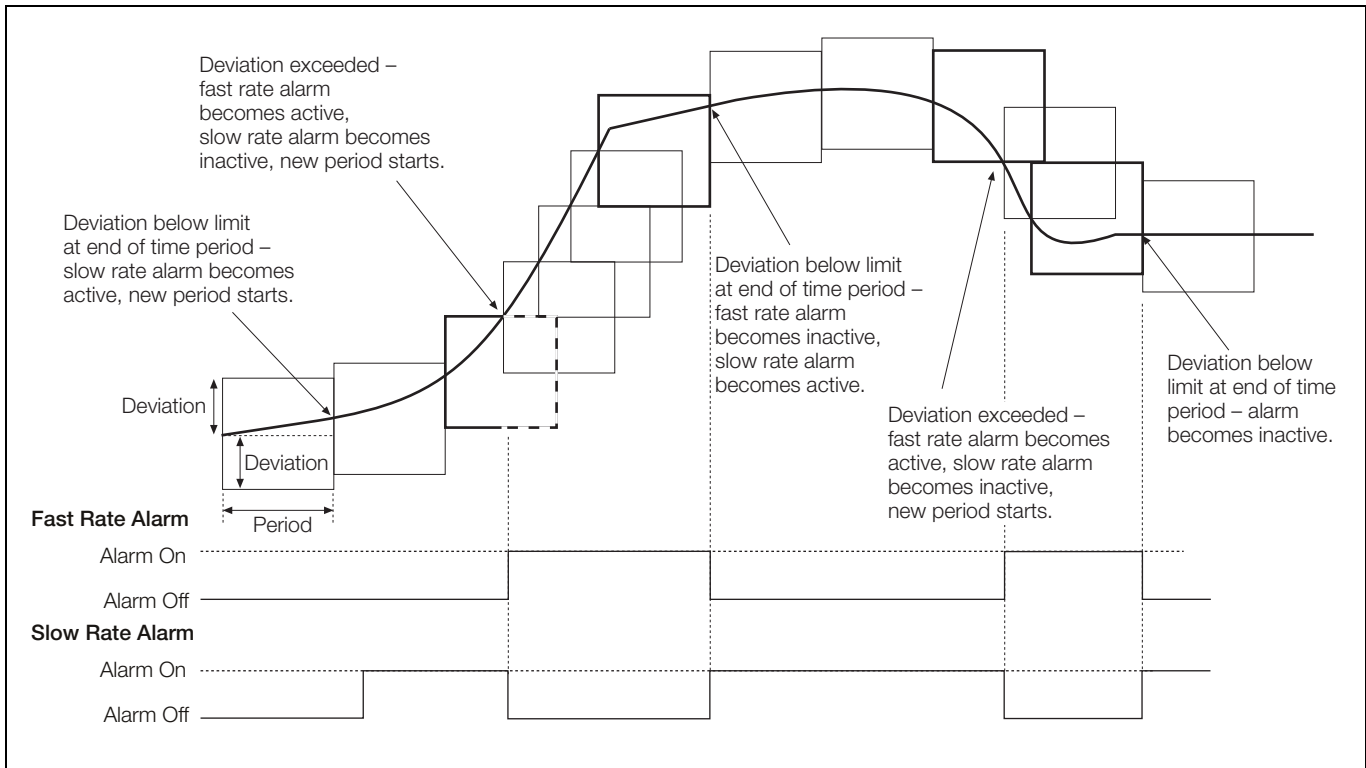

Fig. 6.17 Fast-/Slow-Rate Alarms
- Fast/Slow rate – see Fig. 6.17, page 94
Note. Rate alarms only – see Fig. 6.17, page 94.
- Rate alarms only – see Fig. 6.17, page 94.